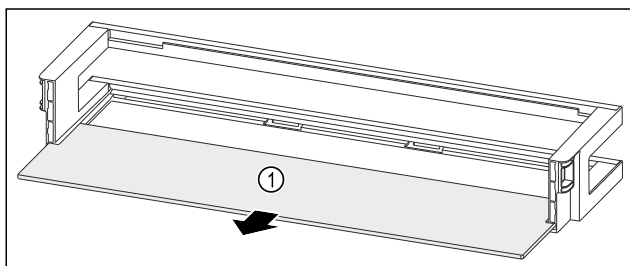

Fig. 235 Door rack with shelf
- Remove the shelf Fig. 235 (1).